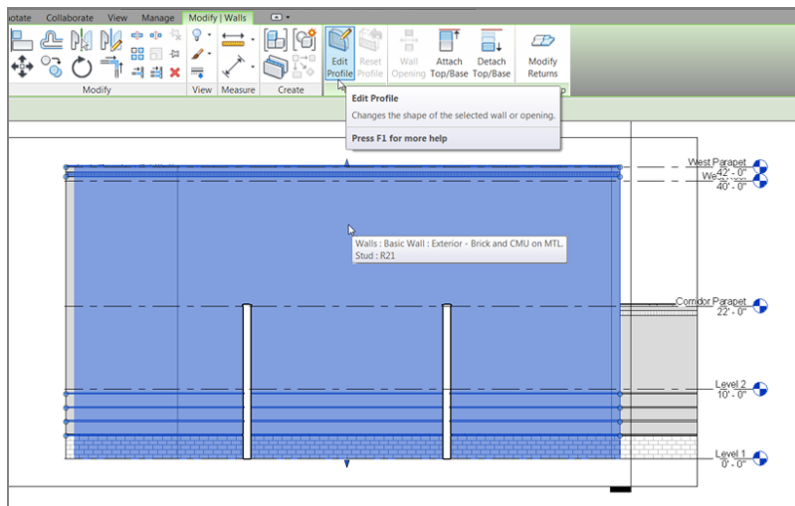

FIGURE 4.36: Select the wall beyond, and click the Edit Profile button on the Modify | Walls tab.
2. Select the wall beyond, as shown in Figure 4.36.
- 3. On the Modify | Walls tab, click the Edit Profile button (see Figure 4.36).